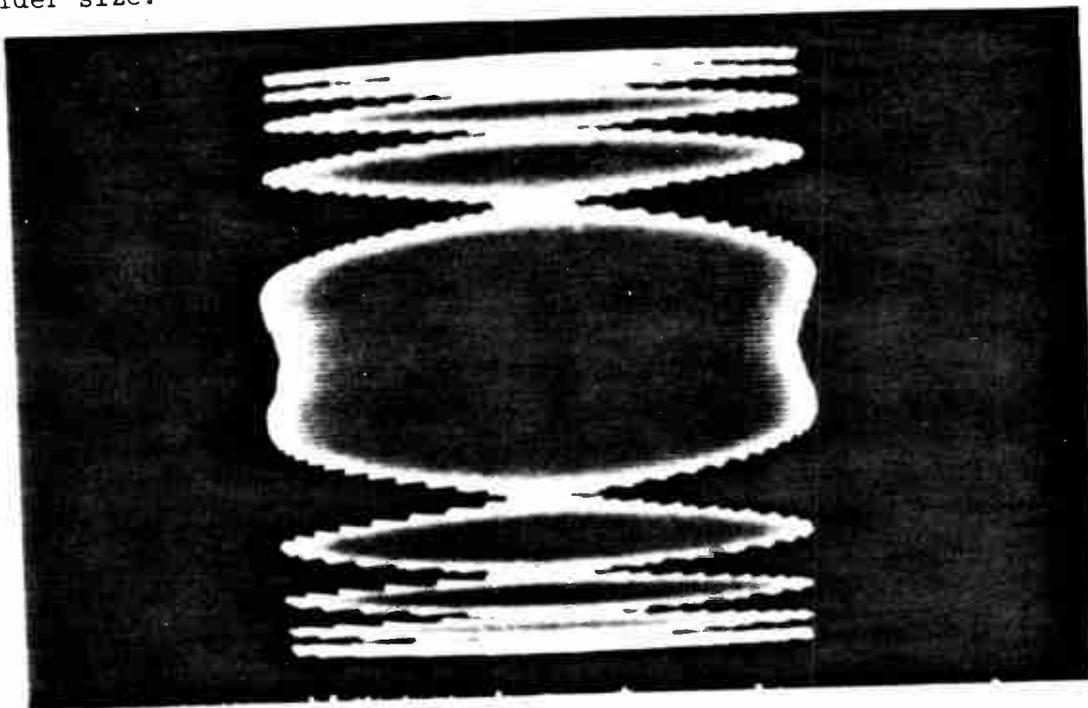

Figure 6-4. 180° Line-Up of Complete Pattern
e. Rotate PHASE ANGLE SELECTOR so that two widest envelopes are located behind each other and in center of screen (see figure 6-4). Envelopes will probably differ in size but are recognized by their wider size.